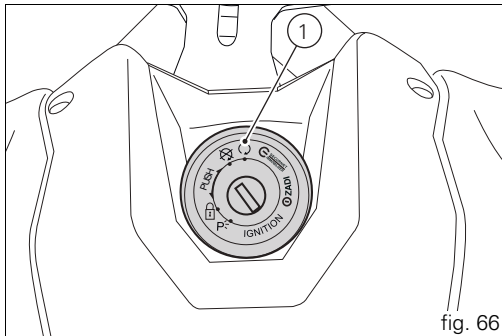

fig. 66
- 1) Move the ignition key to ON (fig. 66). Make sure both the green light N and the red light  on the dashboard come on.